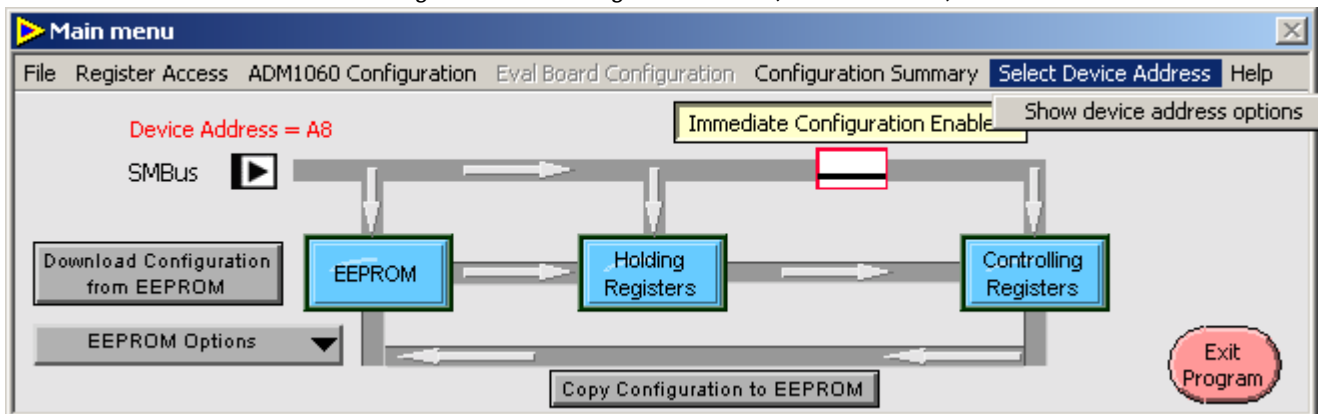

Figure 24. Floating Menu Bar (Multiple devices detected on bus).
- 2. Multiple ADM1060s detected (Figure 24):** Similar to Normal mode but Select Device Address option is available. This returns the user to the Device Address Window where another device may be selected.